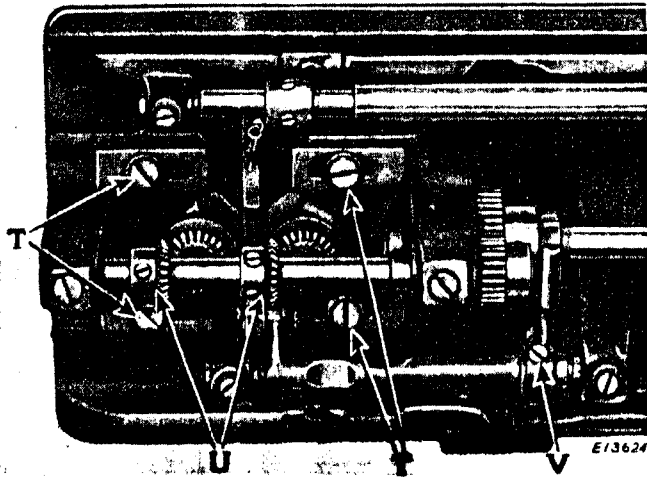

Fig. 15.
Remove the throat plate and turn the balance wheel toward you until the lower mark on the needle bar is opposite the bottom of the needle bar bushing on the upward stroke of the needle bar. If the hooks are correctly timed, the points will be opposite the centers of the needles. If they are not, loosen the two screws in the hub of each hook driving gear (U, Fig. 15) and turn the gear until the hook is properly timed.
Turn the balance wheel over toward you until the points of the sewing hooks are at the centers of the needles. Loosen the two screws (T, Fig. 15) in each hook saddle and move the hook saddles to the right or left as may be required until the point of each hook is as close to the needle as possible without striking it, then securely tighten the two screws (T).
Tip back the machine and turn the balance wheel toward you until the feed dog is at its highest position. Loosen the feed lifting cam fork screw (V, Fig. 15), move the rocker shaft up or down until the feed dog is at the desired height, and retighten the screw.